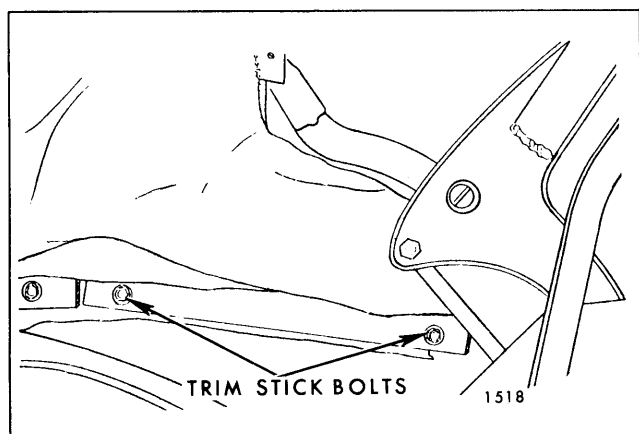

Fig. 13-42—Rear Quarter Trim Stick
4. At each rear quarter area remove attaching bolts securing rear quarter trim stick assembly to rear quarter inner panel (Fig. 13-42).